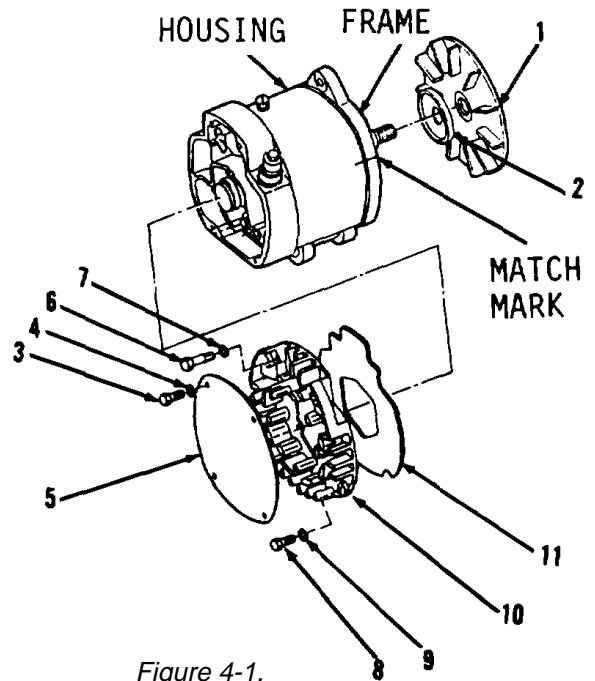

Figure 4-1.
1. Remove fan (1) and slinger (2, Figure 4-1).
2. Position items 3 thru 80 as an assembly in soft jawed vise.